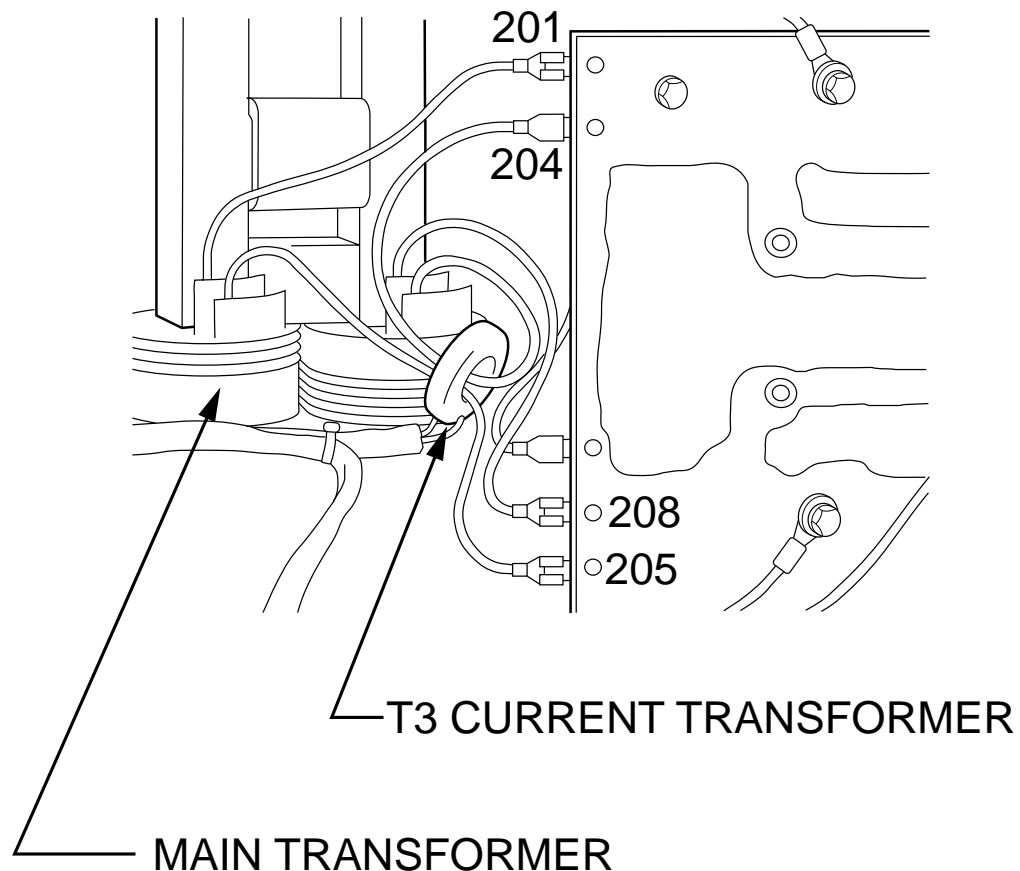

Figure F.23 Main Transformer Right Side
3. Locate main transformer and associated primary leads. See Figure F.23.